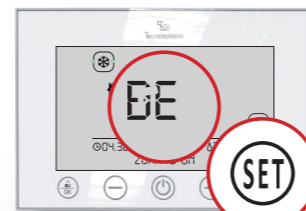

Fig.12
5.4 Dehumidification ( + "dE"). With the chrono master unlocked, enter setting mode and use the key to select the symbol (flashing) + "dE" and confirm with the key. This setting provides for 100% opening of all the dampers in the system to ensure that the ducted machine dehumidifies in all the zones in the system (Fig. 12). If you do not intend to use this feature in one or more zones of the system, you can operate as follows: